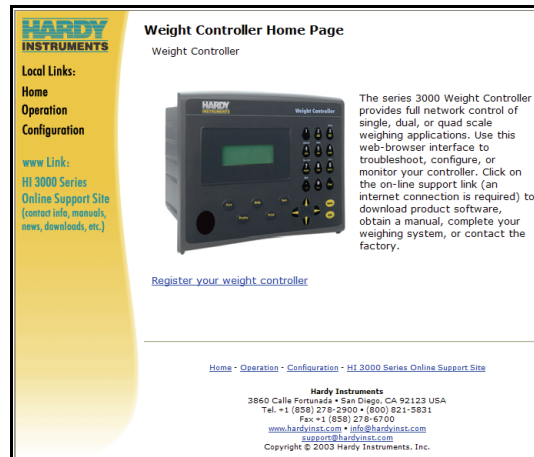
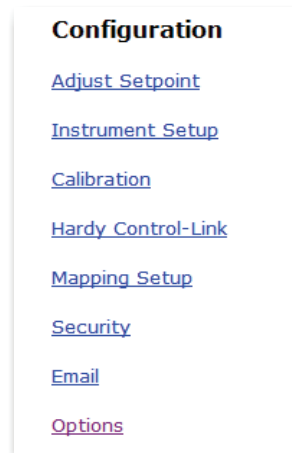
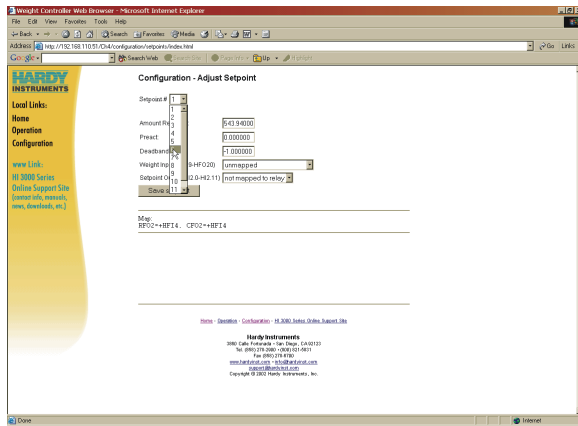

FIG. 3-17 HI 3030 WEIGHT CONTROLLER HOME PAGE/SELECTING CONFIGURATION
FIG. 3-18 CONFIGURATION PAGE/ SELECTING ADJUST SETPOINT
FIG. 3-19 ADJUST SETPOINT PAGE/SELECTING SETPOINT #
Step 1. From the HI 3030 Weight Controller Home Page click on Configuration. (See Fig. 3-17) The Configuration page appears. (See Fig. 3-18)
- Step 2. Click on Adjust Setpoint. (See Fig. 3-18) The Configuration - Adjust Setpoint page appears. (See Fig. 3-19)
- Step 3. Select the Setpoint Number by clicking on the pull down menu next to “Setpoint #”. (See Fig. 3-19)